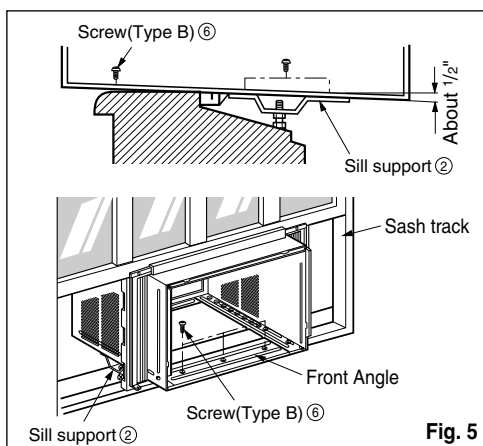

Fig. 5
6. The cabinet should be installed with a very **slight tilt(about 1/2") downward** toward the outside (See Fig. 5). Adjust the bolt and the nut of sill support for balancing the cabinet.
7. Attach the cabinet to the window stool by driving the screws ⑥ (Type B: Length sixteen millimeters and below.) through the front angle into window stool.